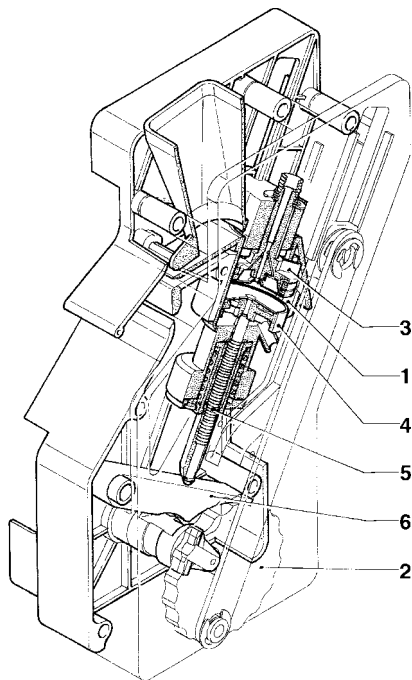

Fig. 13
The ratiomotor handle engaged with the disk (2) located outside of the unit rotates by 180°, causing the brew chamber to swing and lowering the upper piston (3) (see Fig. 13).